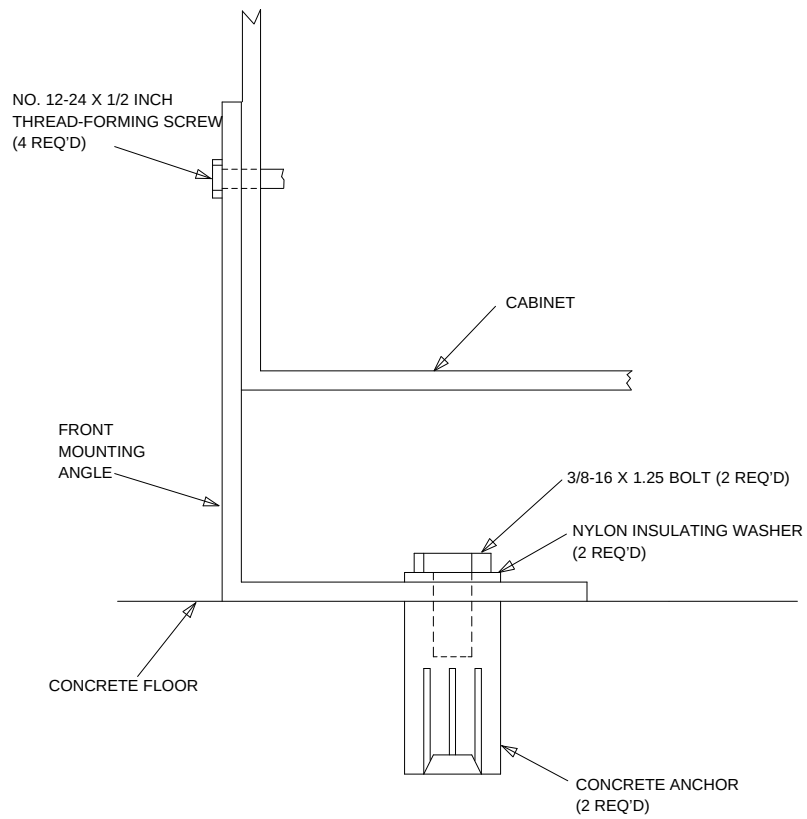

Figure 3-3. Front Mounting Angle — Concrete Floor
4. Mount the front mounting angle to the floor (Figure 3-3).